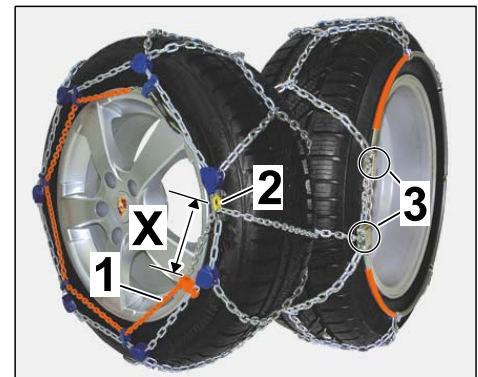

Figure 15
2.4 Check that the snow chain is fitted correctly on the wheel (⇒ *Figure 15*)
- The area marked in red on the tensioning chain must be pulled completely through the slot on the locking plate. The distance between the area marked in red and the slot on the locking plate (dimension X ⇒ *Figure 15 -X-*) can vary depending on the tyre size.
- Position of deflection roller/tensioning points (inside of wheel ⇒ *Figure 15 -4-*): Must **NOT** be lying on the running surface of the tire or touching the road.